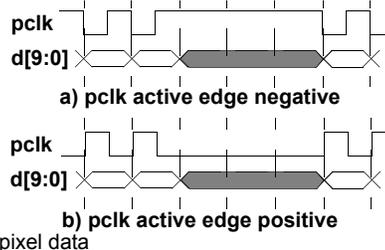

Figure 43. pclk in Data Ready Mode
- In data ready mode, (the *PixClkMode* bit of DVBUSCONFIG1 register is set to a logic 1), the pixel clock output pin **pclk** will produce a pulse with a specified level every time valid pixel data appears on the digital video bus **d[9:0]** as shown in Figure 43.